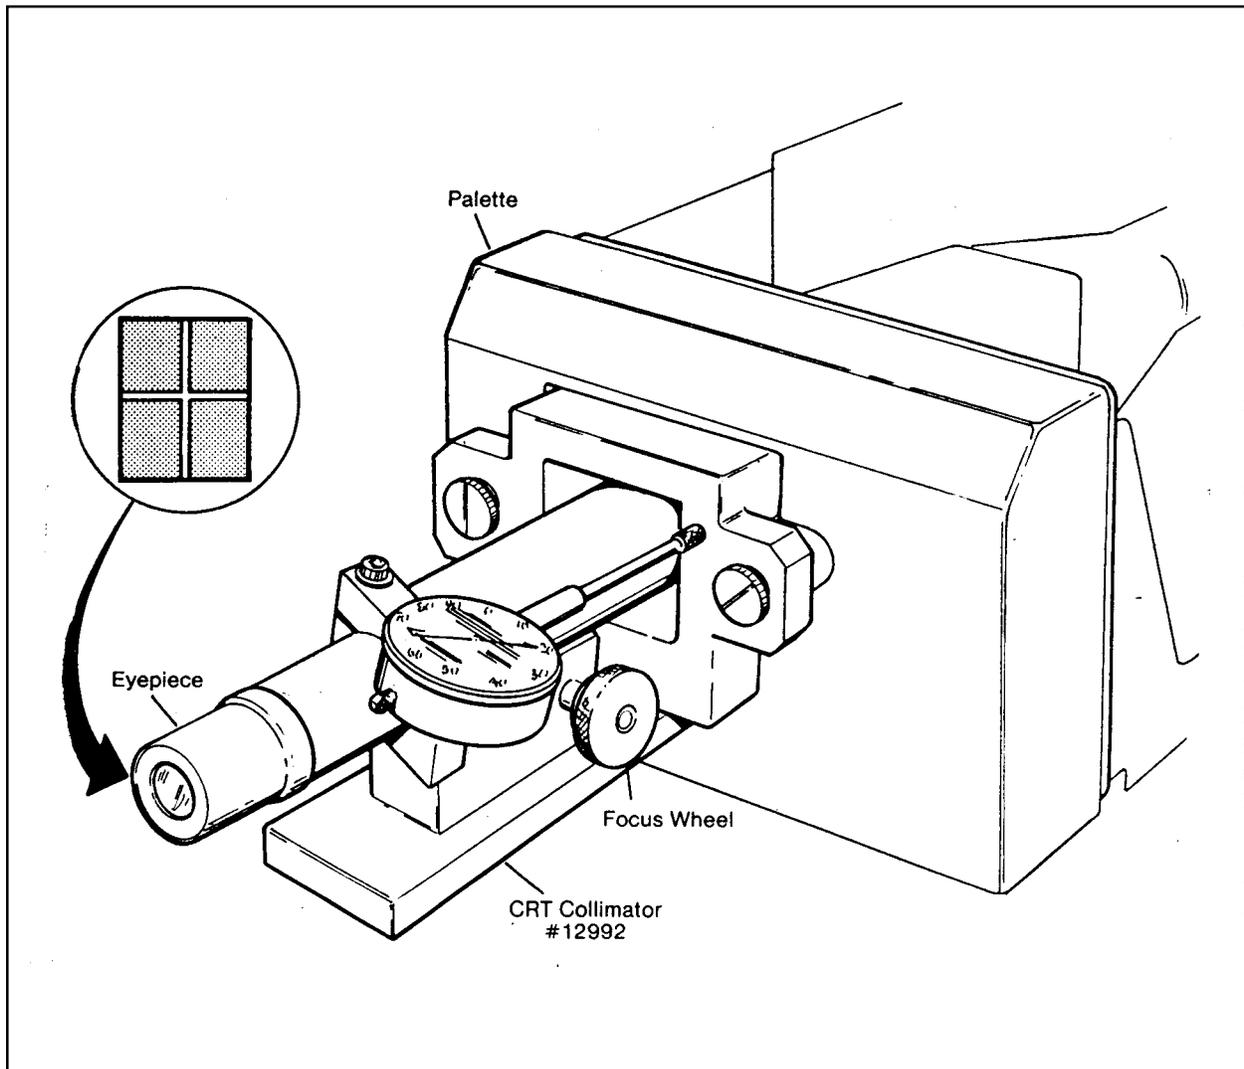

Figure 5-10. Installing CRT Collimator onto the Digital Palette
Refer to Digital Palette Collimation procedure (Figure 5-10).
4. Install the CRT Collimator on the Digital Palette using the thumbscrews to secure it. (Figure 5-10).